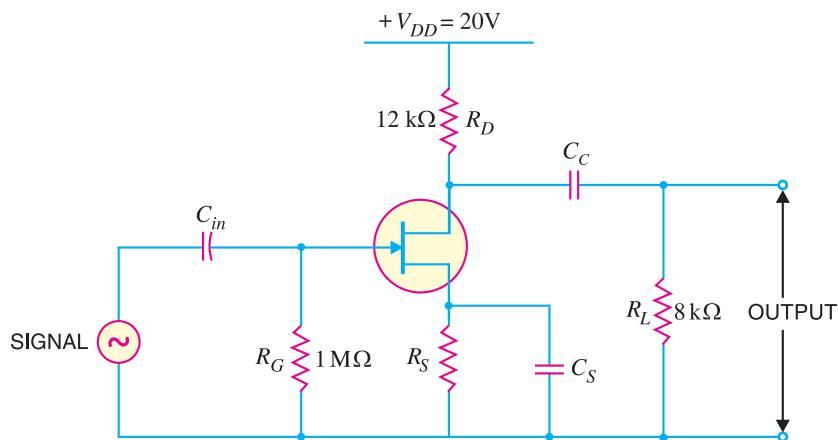

Fig. 19.37
**Example 19.24.** The JFET in the amplifier of Fig. 19.37 has a transconductance \$g\_m = 1 \text{ mA/V}\$. If the source resistance \$R\_S\$ is very small as compared to \$R\_G\$, find the voltage gain of the amplifier.